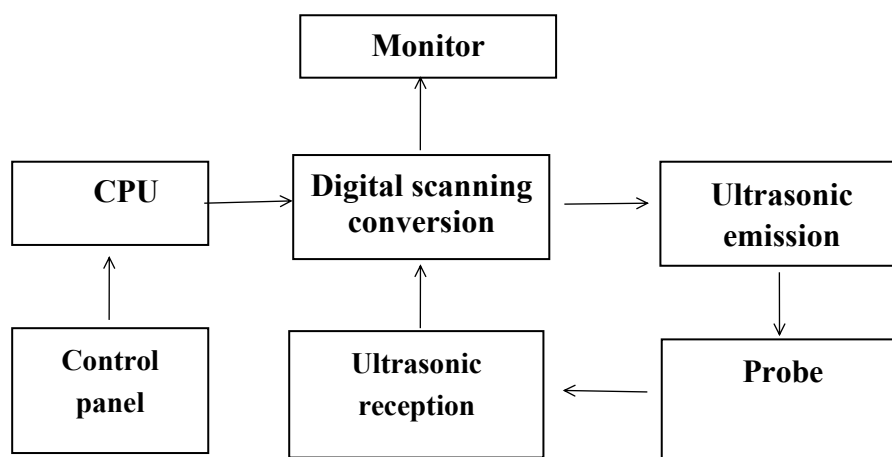

Figure 1-2 Functional Block Diagram
1.3.1 The instrument working principle as shown in figure 1-2